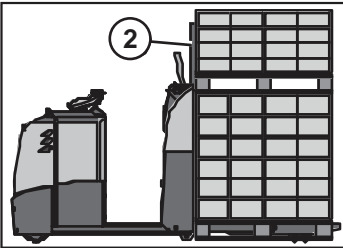

Fig. 3 High Load
- *Use a load backrest (Fig 3. ②) to stabilize high loads and for loosely packed loads that could fall.*